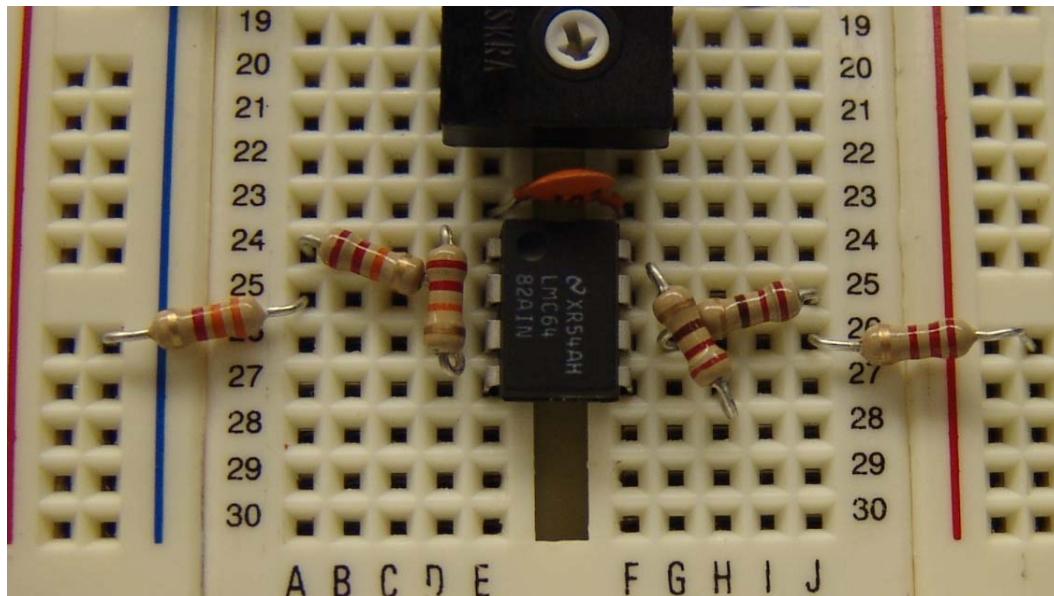

Figure 13. Capacitor C1 (10 nF) has been inserted across E23 and F23. Also shown is the potentiometer.
9. Insert the 10 nF capacitor across E23 and F23. Also insert the potentiometer on the breadboard. Refer to figure 13. Notice the potentiometer has three legs, make sure all three are inserted properly. On my breadboard, the legs are at A19, A21 and G20.